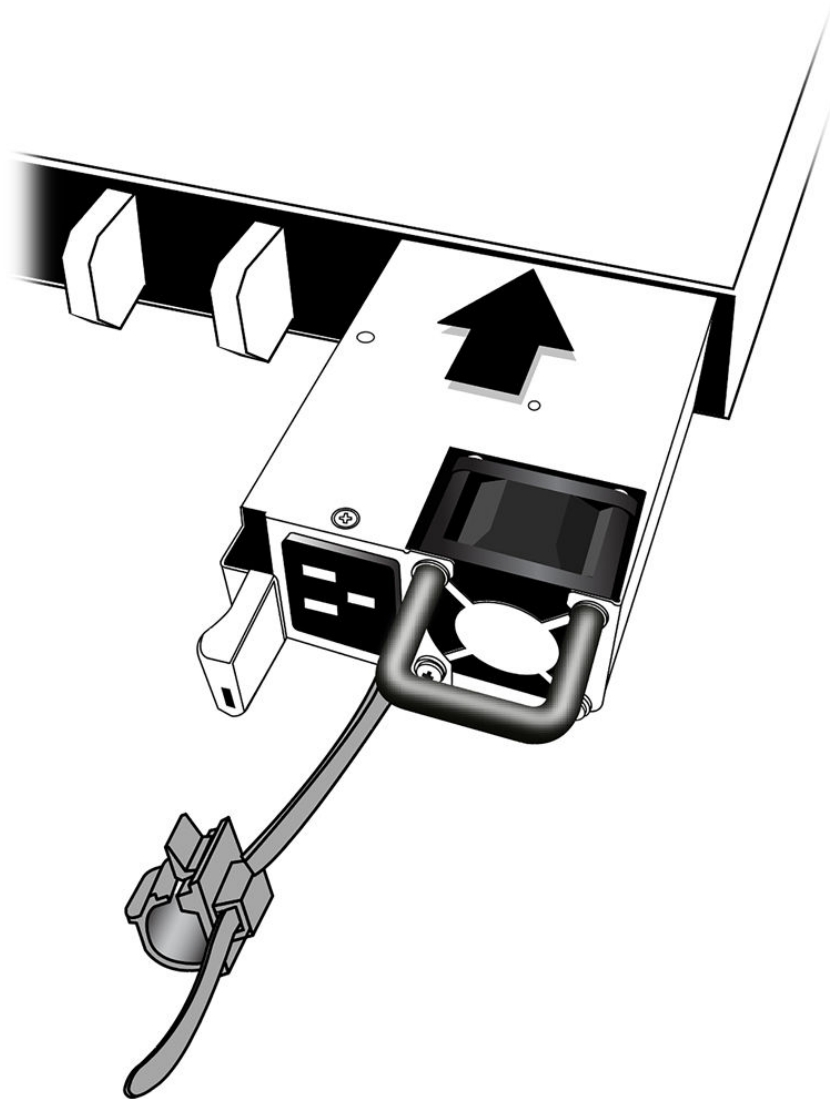

Figure 22: Installing a 750 W AC Power Supply
4. Carefully slide the power supply all the way into the power supply bay (see Figure 22).